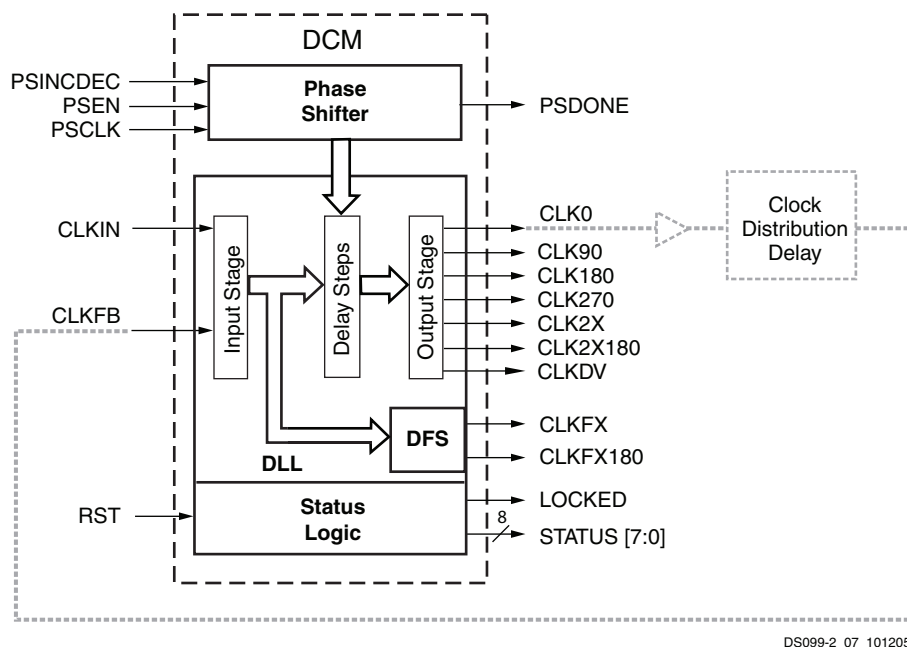

Figure 40: DCM Functional Blocks and Associated Signals
Although a single design primitive, the DCM consists of four interrelated functional units: the Delay-Locked Loop (DLL), the Digital Frequency Synthesizer (DFS), the Phase Shifter (PS), and the Status Logic. Each component has its associated signals, as shown in Figure 40.
inputs to the PS unit (PSEN, PSCLK, and PSINCDEC), as defined in Table 36 and shown in Figure 40.